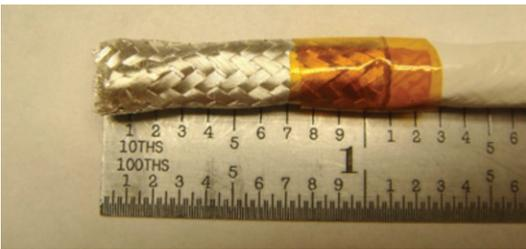

Figure 6: Wrapping the tape
4. Wrap the tape around the cable so that there is 0.70 inches of braid showing (Figure 6).